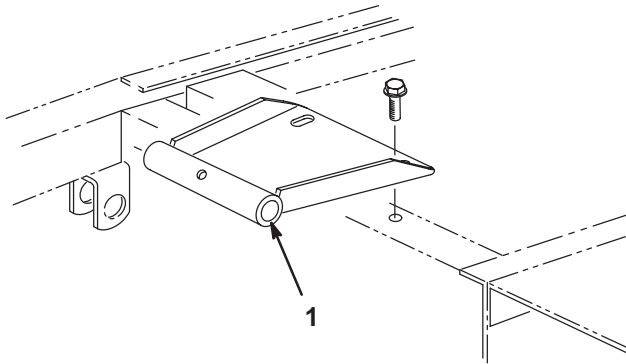

Figure 5
2. Mount seat pivot bracket to frame with 2 flange screws supplied in kit (Fig. 5)
4. Mount seat pivot bracket to frame with (2) flange screws supplied in kit (Fig. 5)